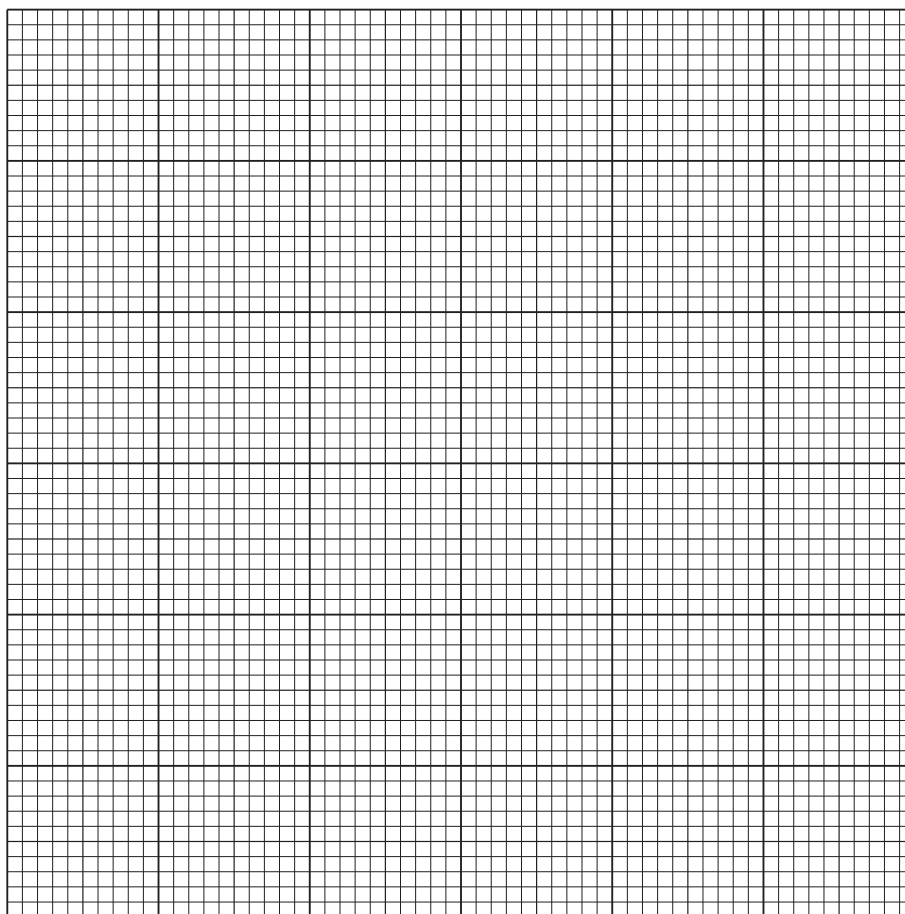

Fig. 1.3
- (ii)** Plot a graph of the data in Table 1.3 on the grid in Fig. 1.3.
- (iii)** Describe the trend shown by the graph in Fig. 1.3.